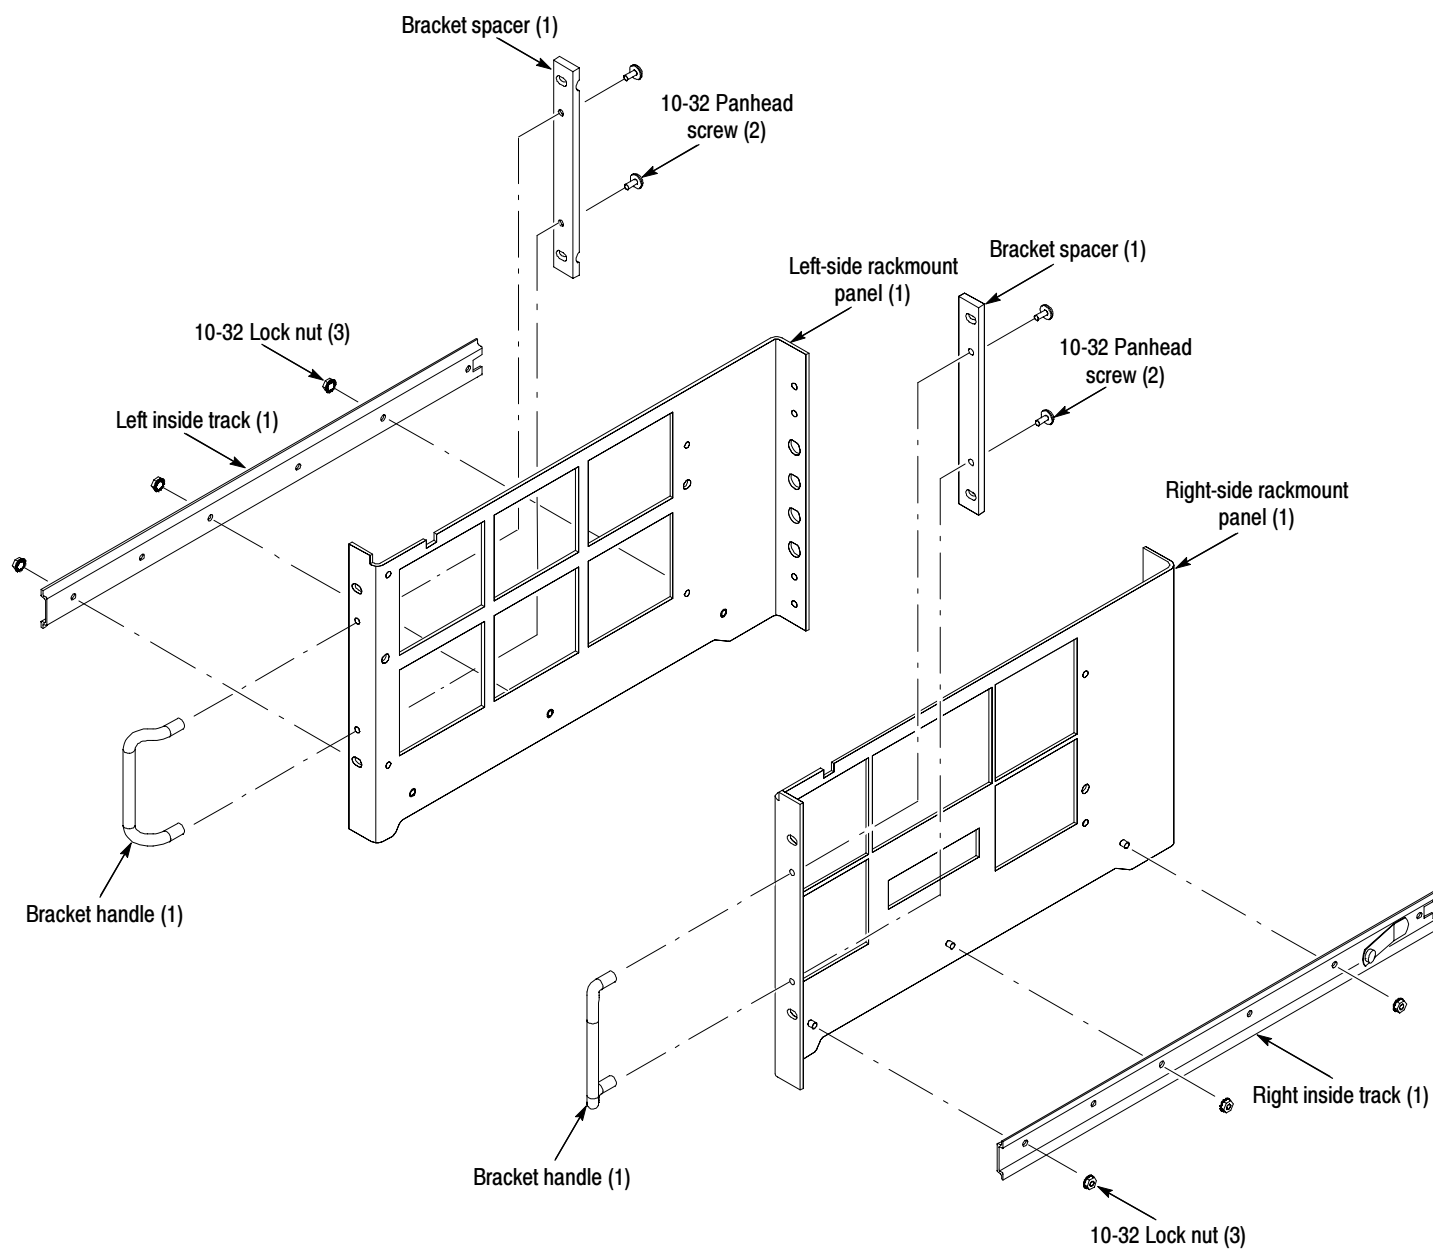

Figure 5: Rackmount panel preassembly
NOTE. Preassemble all sub-parts on the right and left-side panels before installing the rackmount panels on the instrument. Refer to Figure 5.
2. Install the bracket handle and bracket spacer to the right-side rackmount panel. Secure by using the two 10-32 panhead, Phillips screws, applying 15 inch-lbs of torque. Refer to Figure 5, on page 11.